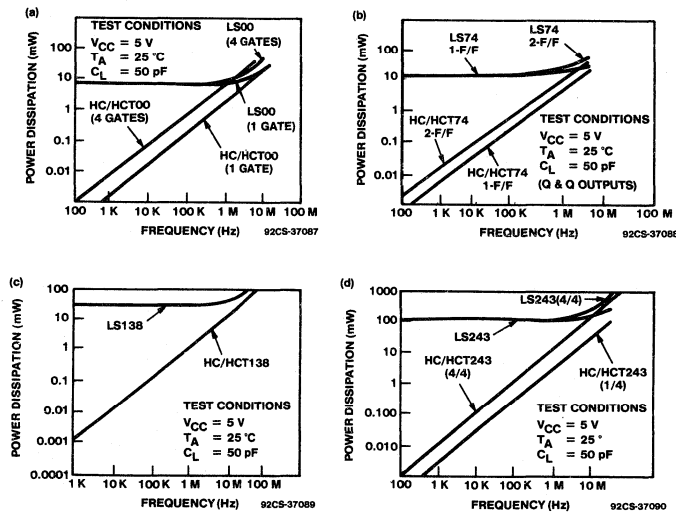

Fig. 31 - Power versus frequency graphs for the (a) LS/HC/HCT00, (b) LS/HC/HCT74, (c) LS/HC/HCT138, and (d) LS/HC/HCT243.
The dynamic power consumption of HC/HCT devices is frequency dependent, but it should be noted that LSTTL power consumption is also frequency dependent at frequencies greater than 1MHz. At frequencies less than 1MHz, the dynamic component is negligible compared to the static component. The average power consumption of HC/HCT and LSTTL equivalents is illustrated in Fig. 31 for four device types. Because all of the functions in a multi-functional LSTTL device are biased when power is applied, the HC/HCT device characteristics are plotted for a single function and for the total package for the purposes of comparison.
Some observations from Fig. 31 are:
- 2) For higher complexity types such as the RCA HC/HCT 138 3-of-8 line decoder/demultiplexer shown in Fig. 31(c), HC/HCT power approaches LSTTL power at above 10MHz.
3) Fig. 31 implies continuous operation at the frequencies shown, however, most practical applications of logic in microcomputer systems have variable operation or data/address signal rates. The average operating frequency is much below the peak operating frequency — particularly in the 100KHz region where power savings over LSTTL are several orders of magnitude.